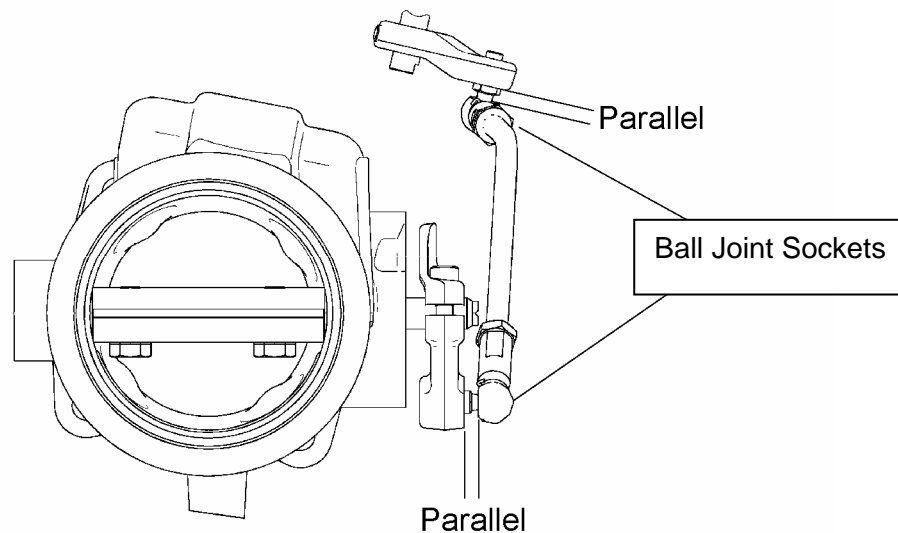

Figure 7 – Parallel Ball Joint Sockets
10. Tighten the locknut against the ball joint socket to 12.5 N·m (9 lb-ft), being careful not to damage (bend) the linkage or the SRA lever. See Figure 7.